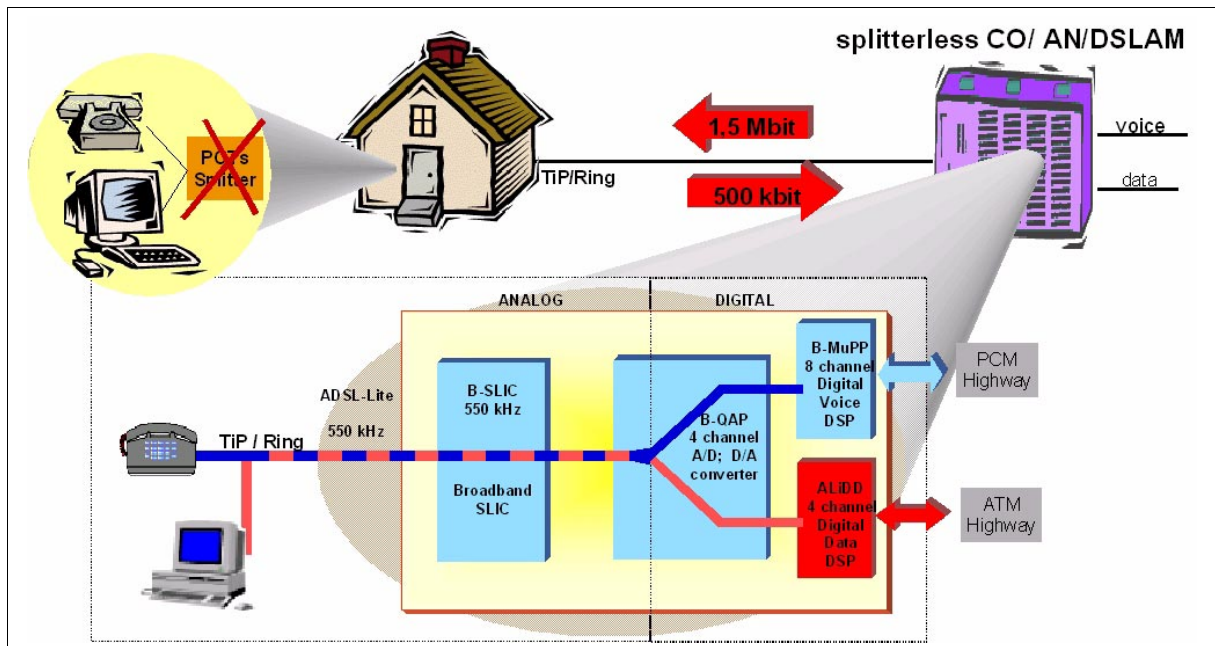

Figure 1-3 ADSL-Lite Linecard in a Central Office
The B-MuSLIC chipset supports data transmission at rates of 1536 kbps downstream and 512 kbps upstream simultaneously with voice transmission. Eight-bit data is sent to the ALiDD using a Utopia-2 ATM interface, while voice is sent to the B-MuPP using either a PCM highway or the IOM-2 interface (Figure 1-3). Programming, control, and signalling information from the ALiDD and the B-MuPP is sent to the local processor via a flexible 8-bit parallel μ P interface.
- COs (Figure 1-3)